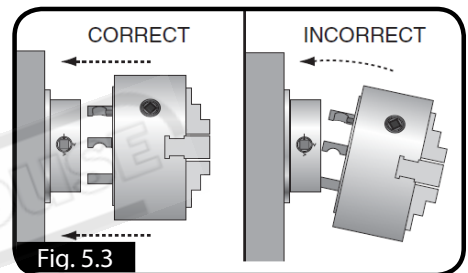

Fig. 5.3
**Note !** Avoid inserting the studs in from an angle or rotating the spindle. This can damage the studs or the cam holes. (Fig 5.3)